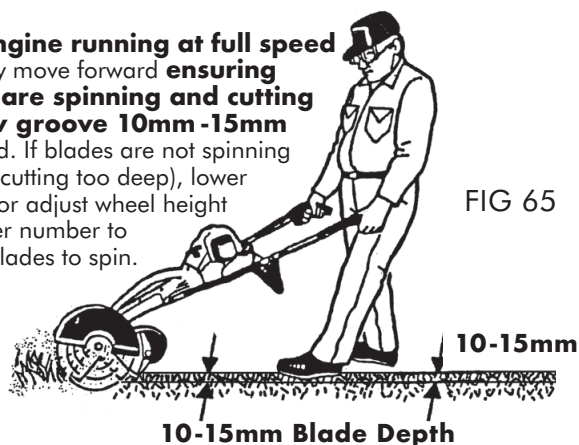

FIG 65
7. **With engine running at full speed** gradually move forward **ensuring blades are spinning and cutting shallow groove 10mm - 15mm** in ground. If blades are not spinning (you are cutting too deep), lower handles or adjust wheel height to a lower number to enable blades to spin. Fig.65.